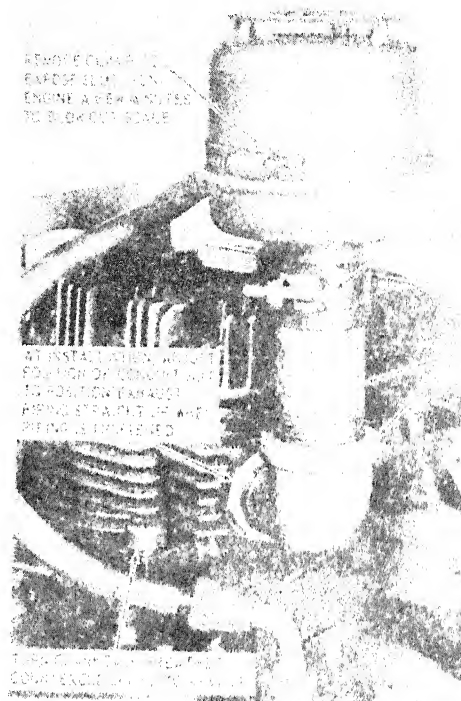

Figure 29. Muffler, exhaust piping and breather, removal and installation.
a. Service. Refer to figure 29 and service the muffler.
b. Removal. Refer to figure 29 and remove the muffler and piping.
- (1) Clean the exhaust system parts with an approved cleaning solvent. Take care to remove carbon from inside of piping and muffler.
- (2) Inspect the muffler for cracks, dents, holes, thin walls, and other damage.
- (3) Inspect all other parts for cracks, worn or damaged threads, corrosion, excessive heating, and other damage. Replace all damaged parts.
d. Installation. Refer to figure 29 and install the muffler and piping.
a. Removal. Refer to figure 29 and remove the crankcase breather.
- (1) Clean the crankcase breather by immersing in an approved cleaning solvent; shake dry.
- (2) Inspect the breather for visible damage. The breather cap must be free on the top of the breather. Blow through the breather with compressed air to assure that the passage through the breather is free.
c. Installation. Refer to figure 29 and install the crankcase breather.